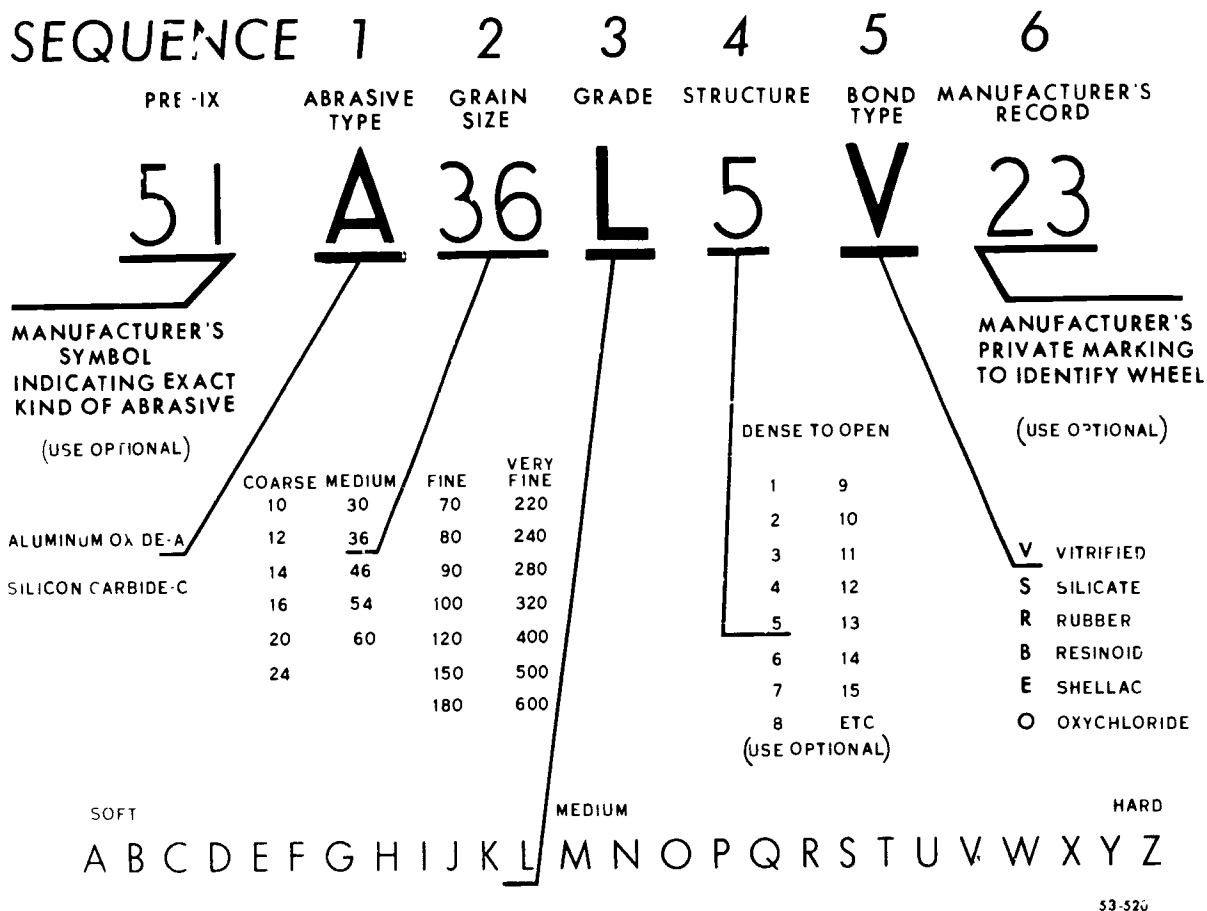

Figure 3-1 Grinding wheel markings
**Exercises (425):**
**Markings.** Every grinding wheel is marked by the manufacturer with a stencil or a small tag. The manufacturers have worked out a standard system of markings, shown in figure 3-1. The figure is self-explanatory and you should study it carefully. Note the information contained in the various positions
- (1) Kind of abrasive.
- (2) Grain size.
- (3) Grade.
- (4) Structure.
- (5) Bond.
- (6) Manufacturer's record symbol.